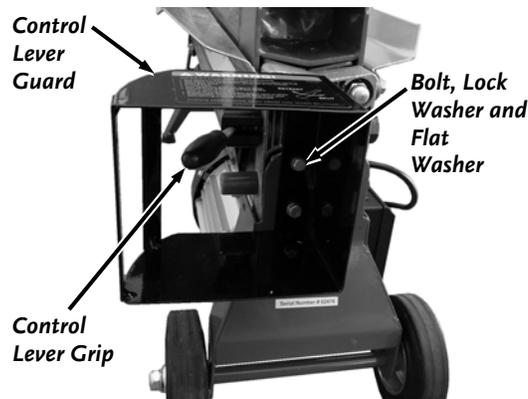

Figure 6
5. Install the Control Lever Guard to the Splitter with two Bolts, Lock Washers and Flat Washers using a 10mm Wrench (**Figure 6**).